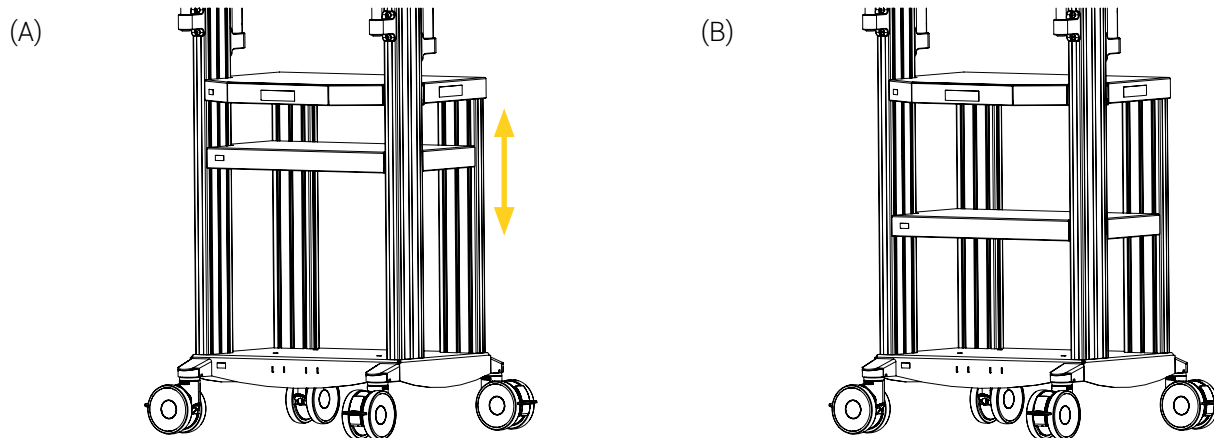

Figure 41: Height adjustment of the UPS protector/shelf
3. Glide the UPS protector/shelf up or down the vertical rail to adjust its height (Figure 41).